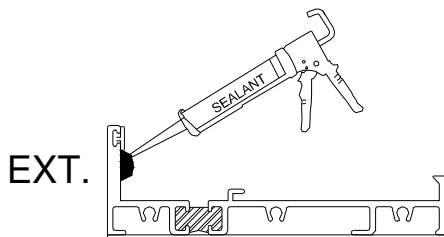

Figure 19
- Before glazing, apply a continuous bead of sealant to the exterior leg of the frame as shown in Fig. 19.